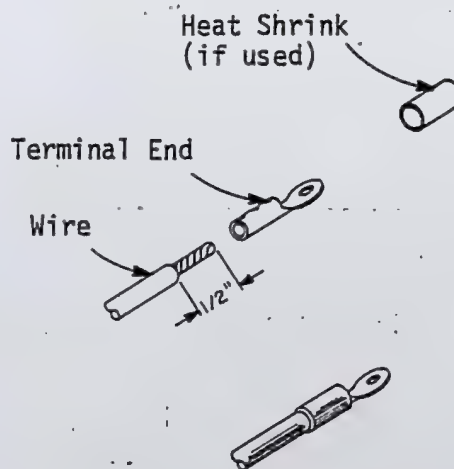

Figure 5-48. Terminal End Attachment
1. Insert the exposed portion of a wire that you have prepared into the correct size terminal end as shown in Figure 5-48.